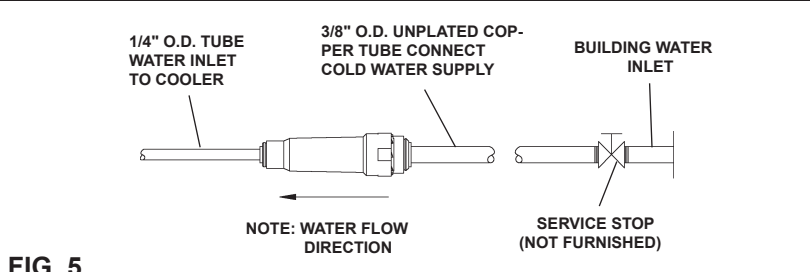

FIG. 5
6. **Connect** the fountain to the supply line with a shut off valve and install a 3/8" (10mm) unplated copper water line between the valve and strainer. Push the tubes straight into the fittings until they reach a positive stop, approximately 3/4". See Figs. 5 and 6.